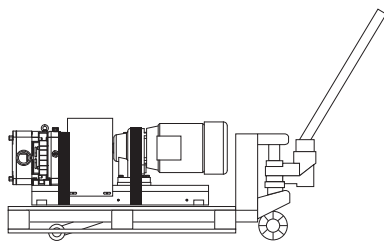

Fig. 12 Moving with industrial truck
- ▶ Ensure that the pump is adequately secured to the pallet, for example, with straps; see Fig. 12, "Moving with industrial truck," page 10.